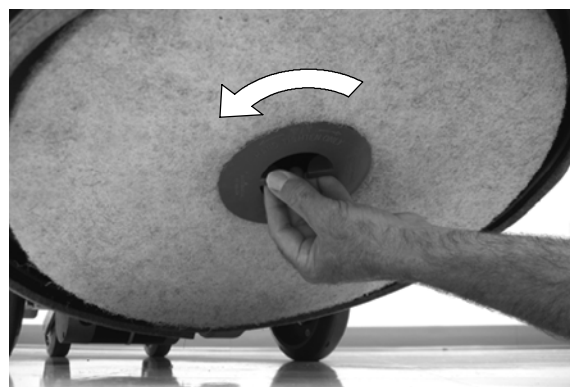

FIG. 25
- Remove the burnishing pad and clean or replace (Figure 25).